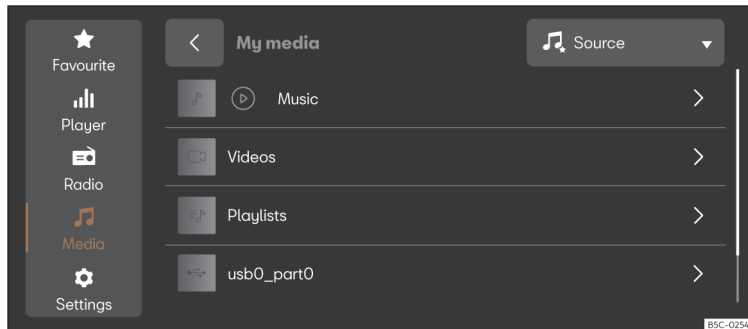

Fig. 178 Schematic representation: Media view
- Press **HOME** > > >>> **Fig. 178**.